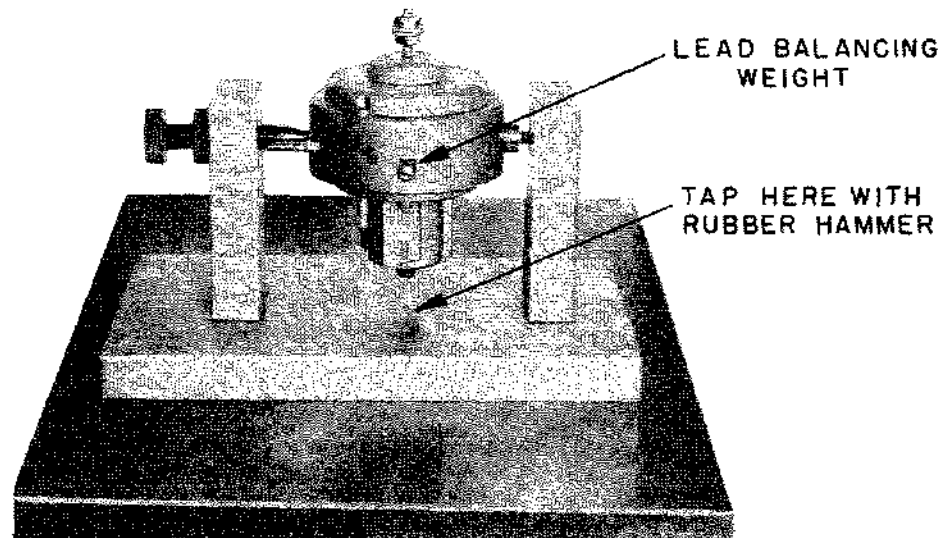

FIGURE 37 BALANCING THE GYRO HOUSING AND PENDULUM ASSEMBLY, VERTICAL POSITION
2. Place gyro housing and pendulum assembly in fixture T-19847 and screw in adjusting screw until assembly is free to turn without binding and without end-play. (See Fig. 37).